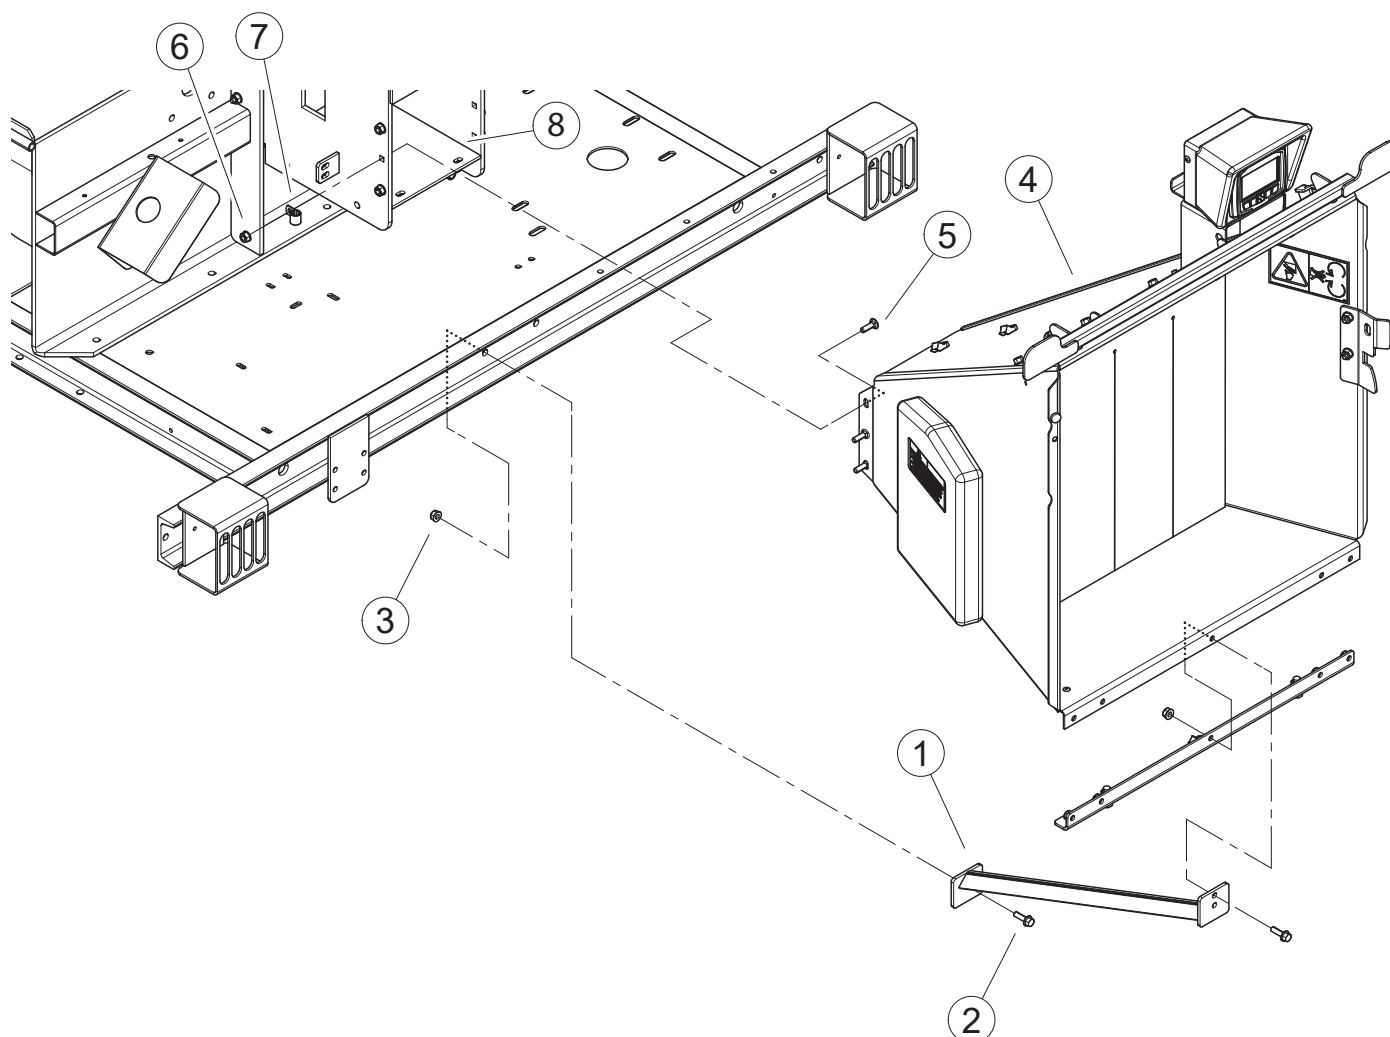

Figure 2.3, Attaching the Chute Support
2. Attach the chute support (1) to the rear end of the trailer using one 3/8" × 1-1/4" bolt (2) and nylock nut (3). Torque to 35 ft-lbs. Refer to Figure 2.3 for proper positioning of the weldment. Attach the other end of the chute support (1) to the chute (4) using existing hardware.
3. Attach the chipper chute (4) to the hydraulic feed using eight 3/8" × 1-1/4" carriage bolts (5) and nylock nuts (6). Use three bolts on each side and two on the bottom. Install clamp (7) for wire harness as shown in Figure 2.3. If feed roller is obstructing the top bolt holes, it may be necessary to use the hydraulic jack to raise the feed roller in order to insert the top bolts. Before inserting the top side bolts to mount the chute, it is important to raise the feed roller high enough to engage the locking mechanism. See Section 5.10 for instructions on how to use the hydraulic jack to lift and secure the feed roller.
4. Connect the wire harness coming from the feed chute (4) to the connector that is located underneath the feed roller housing (8).